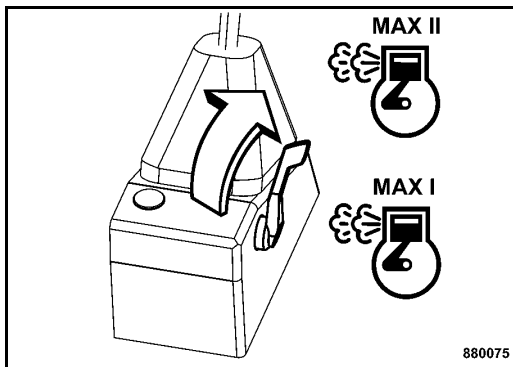

Fig. 77
- Set the throttle lever (Fig. 77) to position "Max I" or "MAX II".